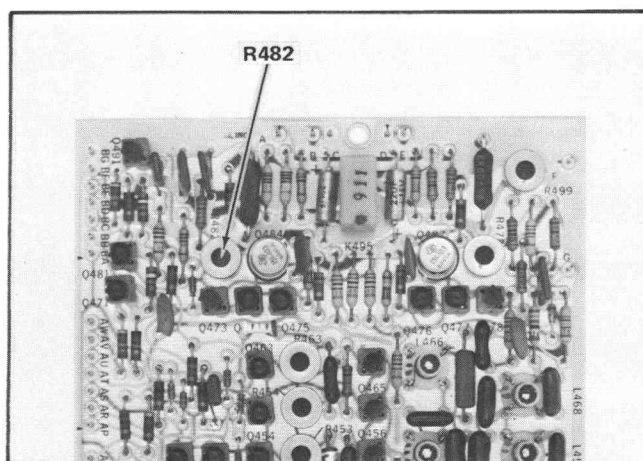

Fig. 5-22. Bar Drive and Video Out board adjustment locations.
k. ADJUST—R482 (see Fig. 5-22) until the top of the bottom display just meets with the bottom of the top display.